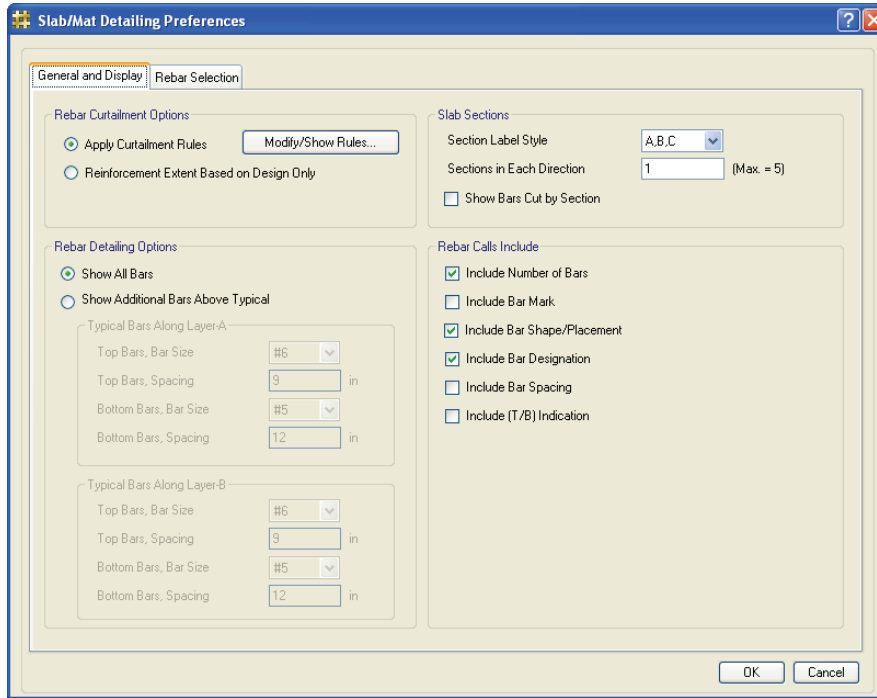

Figure 45 Slab/Mat Detailing Preferences form
- C. Click the **Detailing menu > Slab/Mat Reinforcing Preferences** to display the Slab/Mat Detailing Preferences form shown in Figure 45.